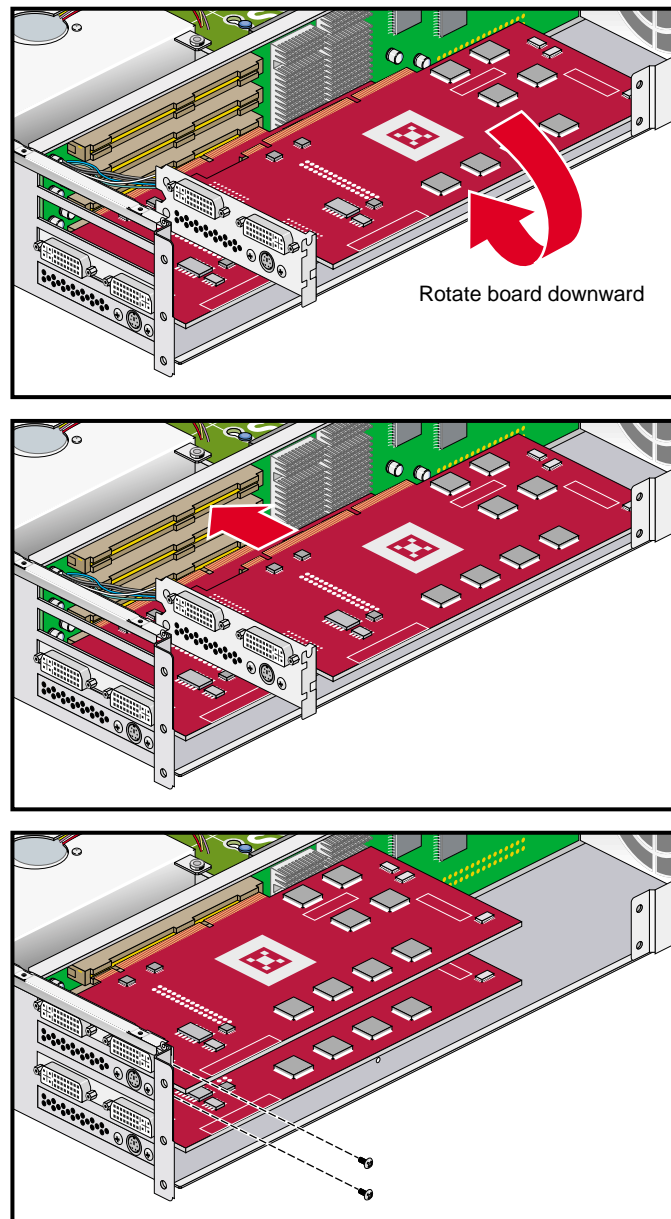

Figure 4-21 Installing the Graphics Card and Retaining Screws
3. Insert the card into the slot the old graphics card was removed from by pushing the card into the connector until it is properly seated and installing the back panel retaining screws, as shown in Figure 4-21.